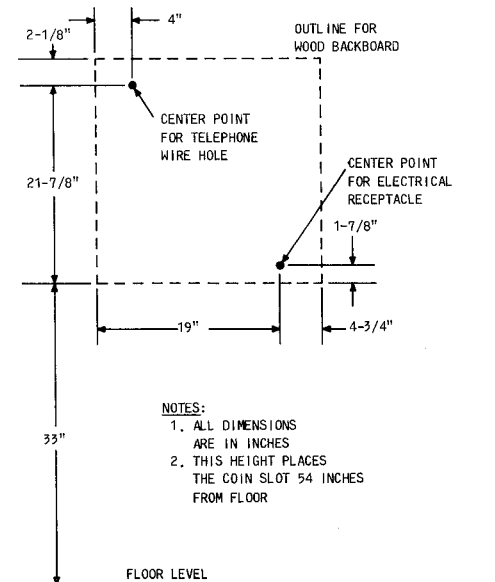

Fig. 6—Locating Backboard On Wall
- 3.04** Refer to Fig. 6 and mark the position on the wall for backboard.